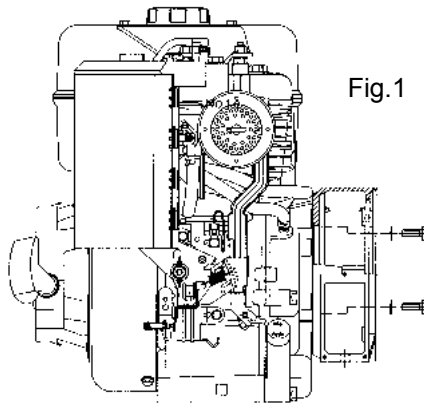

Fig.1
-) mount the front cover on the motor, fixing it with the appropriate screws and applying a tightening torque of $48 \pm 7\%$ Nm if using M10 screws or $21 \pm 7\%$ Nm for M8 screws (figure 1)